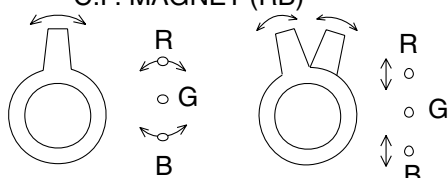

Fig. 8
2. Loosen the Ring Lock and align red with blue dots or crosshatch at the center of the screen by rotating (RB) C.P. Magnets. (See Fig. 8.)